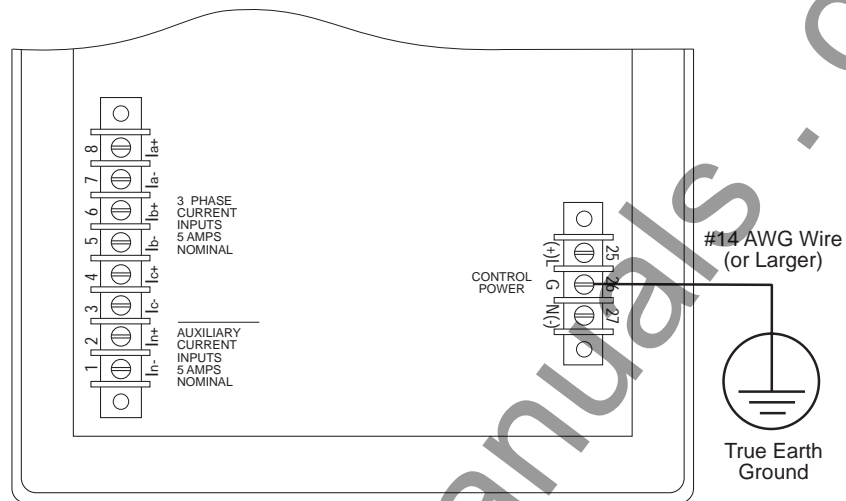

Figure 3-14: Grounding the circuit monitor
1. Connect the Ground terminal (terminal 26) to a true earth ground, using #14 AWG wire or larger with spade connector (see figure 3-14).